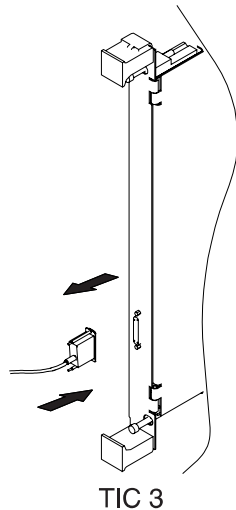

Figure C-5. Installing or Removing a Token-Ring Attachment Cable
Step 2 Push in the connector and tighten the retaining screws (see Figure C-5). Repeat this step for every cable that you need to plug in.